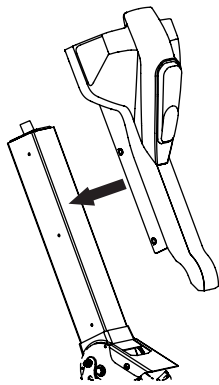
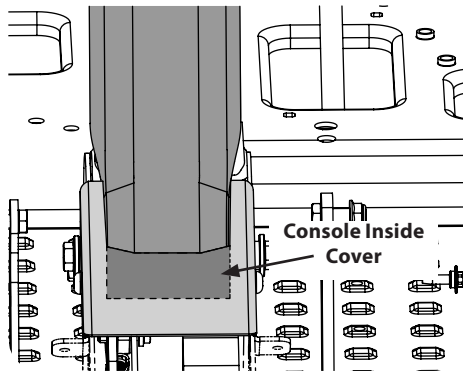

Figure 2-5
Figure 2-6
- Slide the console onto the steering column with the wiring harness tucked in behind the console. Make sure the lower portion of the console is inside the lower column cover. See Figure 2-5 and Figure 2-6.